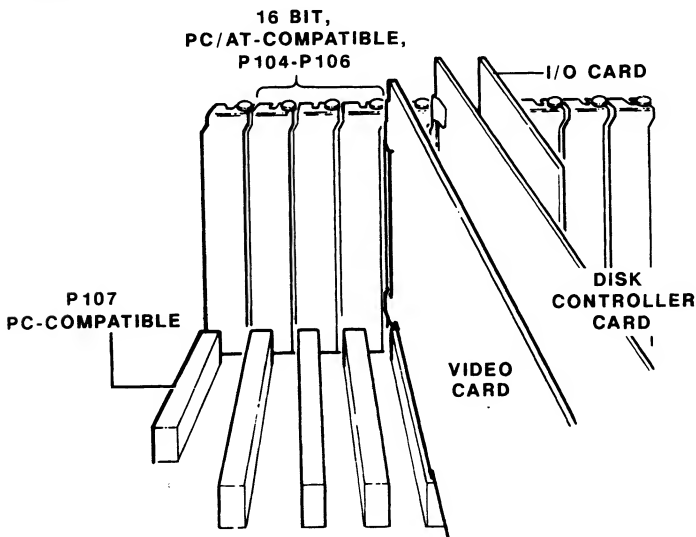

Figure 5-2. Installed Cards and Expansion Slots
2. Circuit cards with descenders can be installed in card slot P105 or P106. Figure 5-2 shows the location of the cards in your computer. Choose a 16-bit PC/AT-compatible card slot, P104 through P106, for your card or a PC-compatible card slot, P107.